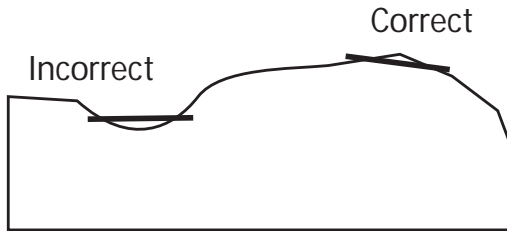

fig. 4
Chisels, or #1's, are perfectly flat and square-ended. Although mostly seen as a carpenter's tool, they are handy for carving lettering and smoothing off convex surfaces. The latter is true because the corners of the cutting edge do not come into contact with the surface, maintaining as flat a cut as possible (fig. 4). If used on a concave surface, the corners would dig in immediately and tear the grain. Skews or #2's are flat, much the same as a chisel, with the exception of having an angled end instead of being squared. This angle serves two purposes: (1) to give the edge a slicing action in order to reduce the resistance of the cut similar to a guillotine, and (2) to allow the point to reach into narrow spaces or angled corners beyond the scope of a chisel.